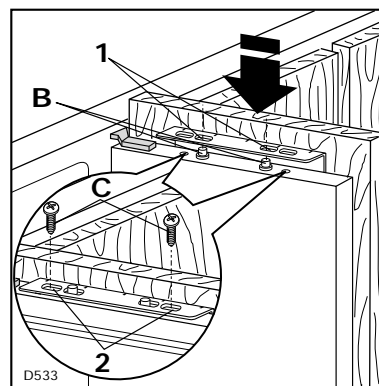

Fig. 11
Hook the decorative panel onto the top part of the door, inserting the pins (B) (on the door) into the elongated holes (1) (in the top bracket fitted to the panel) (Fig. 11).
Insert the securing screws (C) through elongated holes (2) and fix the panel without tightening the screws (Fig. 11).